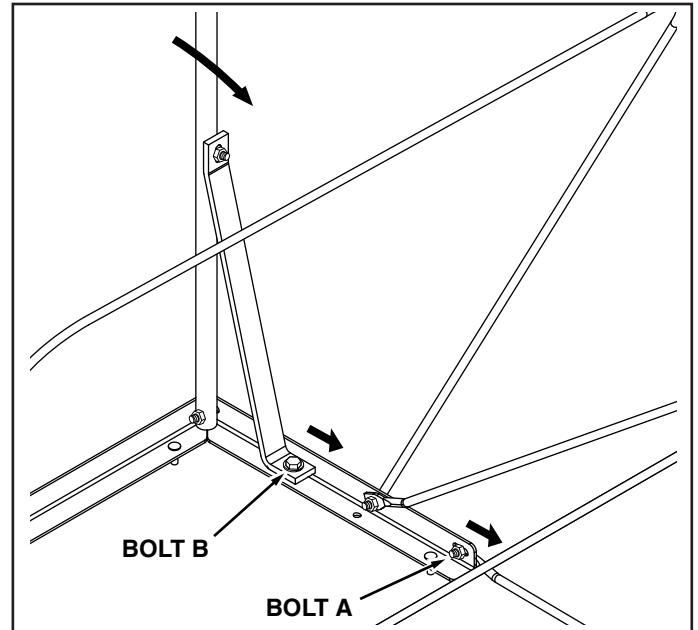

FIGURE 13
- With the rope hanging down loosely, check if the cover fits down freely around the rear of the cart tray. If the cover needs to extend farther to the rear, loosen bolts (A) in figure 13 to slide the support rod rearward.
- If the rear of the cover does not rest down freely around the rear of the cart tray, loosen bolts (B) in figure 13 and tilt the front support tube rearward while sliding the bottom of the braces rearward. Retighten the bolts.